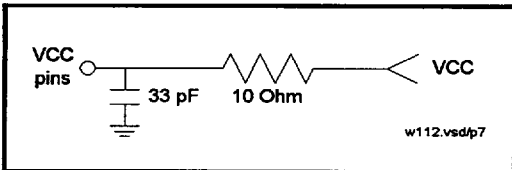

Figure 3. Recommended VCC Decoupling Circuit
2. All Vccs should have proper decoupling capacitors connected to ensure the cleanliness of the DC supply. An RC low-pass network (as shown in Figure 3) is advised. For pin 13 and pin 37, an additional 2.2 μF capacitor in parallel to the 33 pF cap is needed to filter out low-frequency noise.